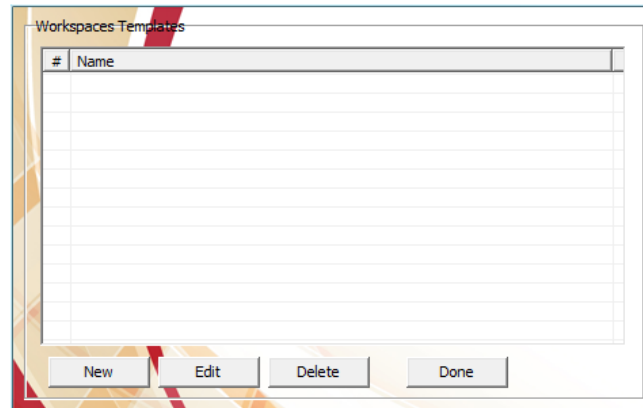

Figure 55 : Choose Workspace Templates Window
The Choose Workspace Template Window is displayed (see Figure 55).
1. Press on **New** button in the Choose Workspace Templates Window (Figure 55).
1. Choose the Workspace you want to edit from Choose Workspace Template (see Figure 55).
1. Choose the Workspace you want to delete from Choose Workspace Template (Figure 55)